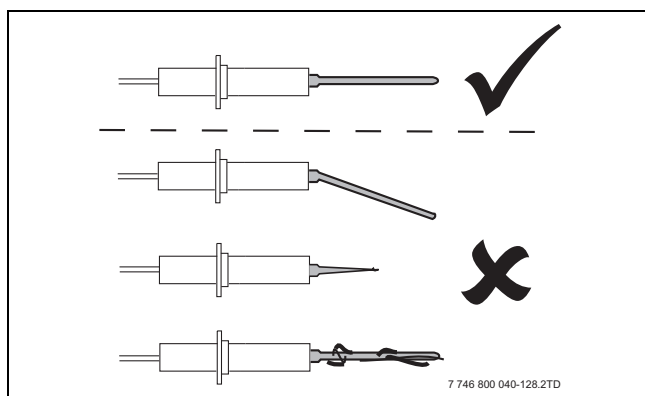
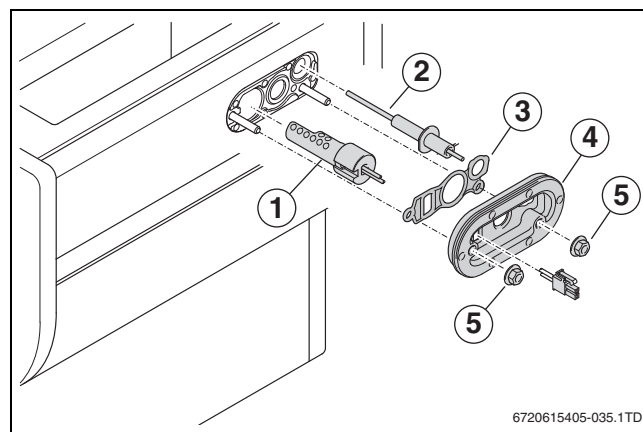

Fig. 89 Checking the ionization electrode
Fig. 90 Replacing the ignition unit
- ▶ The rubber seal (→ fig. 90, [3]) and the cover plate with seal (→ fig. 90, [4]) need to be replaced every 4 years.
- ▶ Check the individual components of the ignition unit (→ fig. 90) for wear or contamination (→ fig. 89).